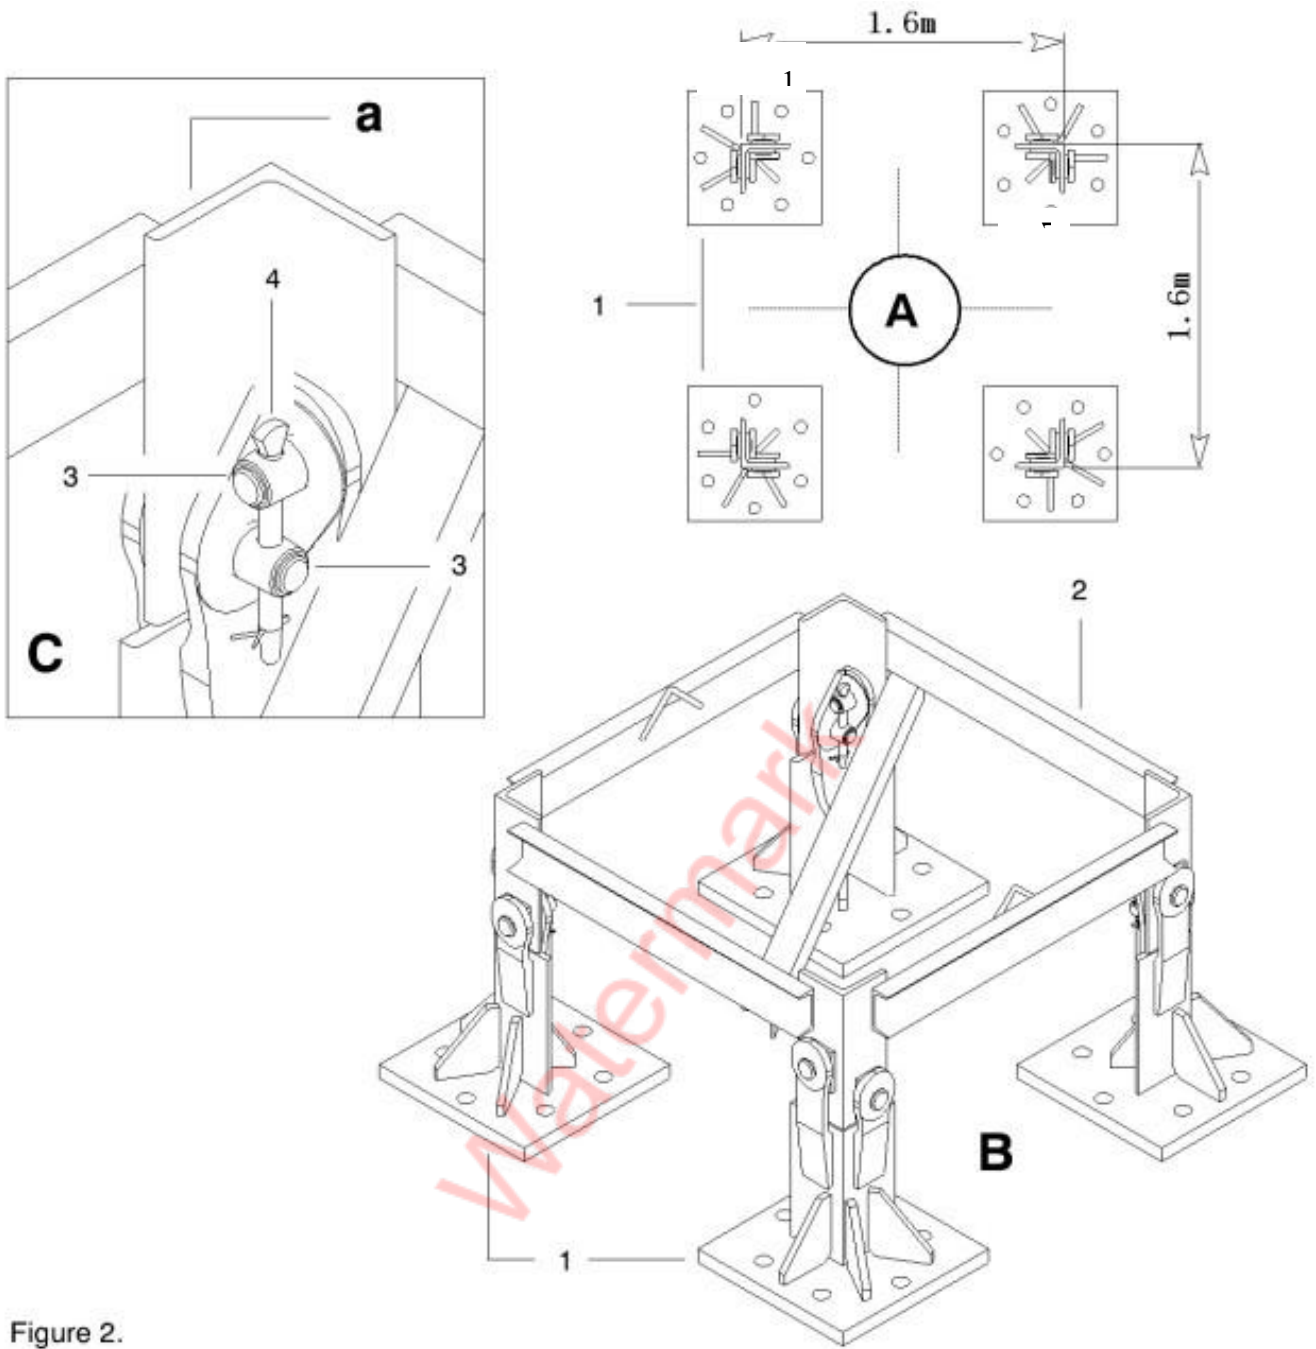

Figure 2.
- Arrange the fixing angles (1) by observing their distance (Detail A - Figure 2).
- Pin-connect the template (2) to the fixing angles (1) by means of 4 x 2 shafts (3). Lock the shafts (3) using the pins (4); fix the pins with split pins (Detail B, C - Figure 2).
- Check the surface evenness of the fixing angles by means of the sighting device. The sighting reference is to be taken at the top (a) of the template uprights (2) (Detail C - Figure 2).